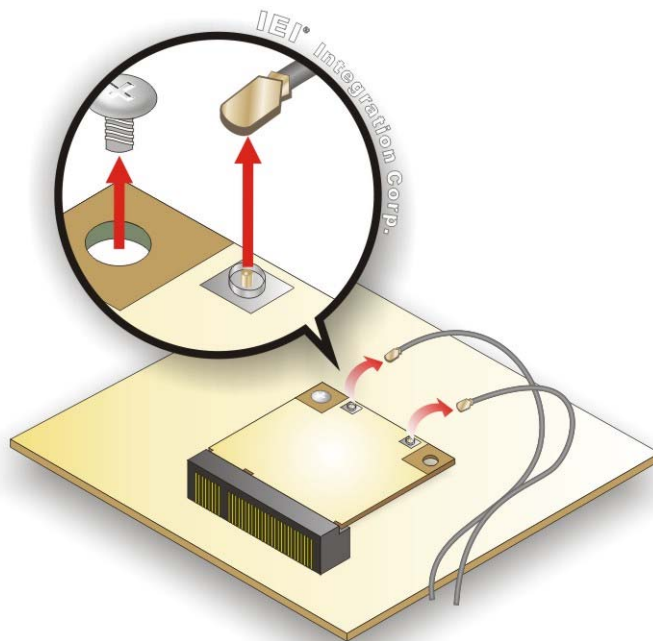

Figure 5-3: Releasing the WLAN Card
Step 5: Disconnect the antenna cables on the WLAN module and remove the retention screw to release the WLAN card (**Figure 5-3**).